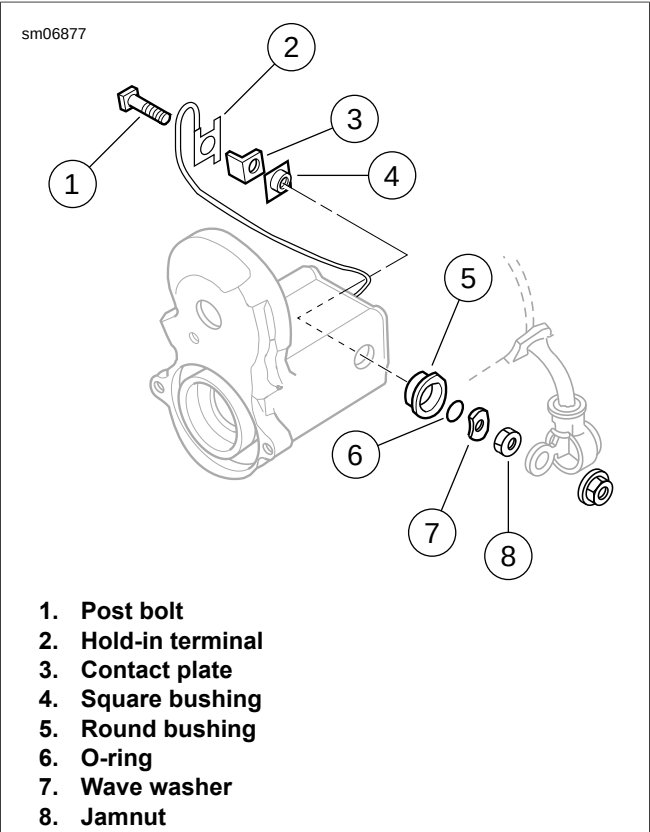

Figure 7-28. Short Post Contact (starter)
- b. See Figure 7-28. Remove jamnut (8), wave washer (7), O-ring (6) and round bushing (5):
- c. Remove the post bolt (1).
- d. Remove the hold-in terminal (2) from the post bolt.
- e. Remove the contact plate (3) and the square bushing (4).